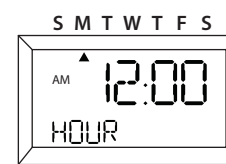

Figure 5
- Press **+** or **-** to move the arrow under the current day of the week (S, M, T, W, T, F, S). Press **ENTER** to confirm, and the hour will appear on the display. See Figure 5.